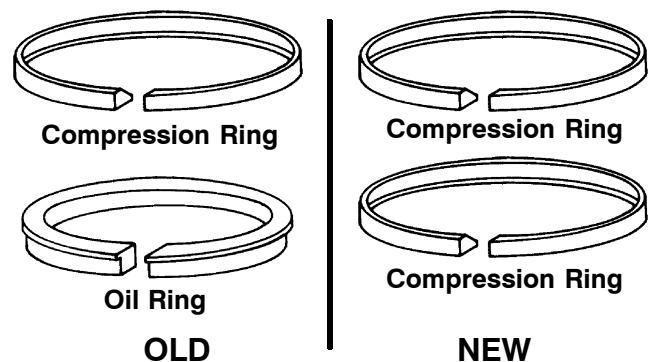

Figure 3-17. Piston Rings
4. Old double ring pistons (with wider lower ring groove), the oil ring is installed in the groove nearest the bottom and the compression ring in the groove nearest the top. The oil ring is notched on the outside circumference. This notch must be installed towards the bottom. (See Figure 3-17)